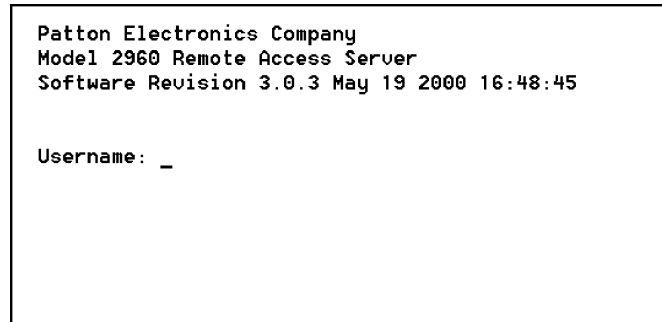

Figure 45. Login window
- Press <RETURN> to display the login window (see figure 45).